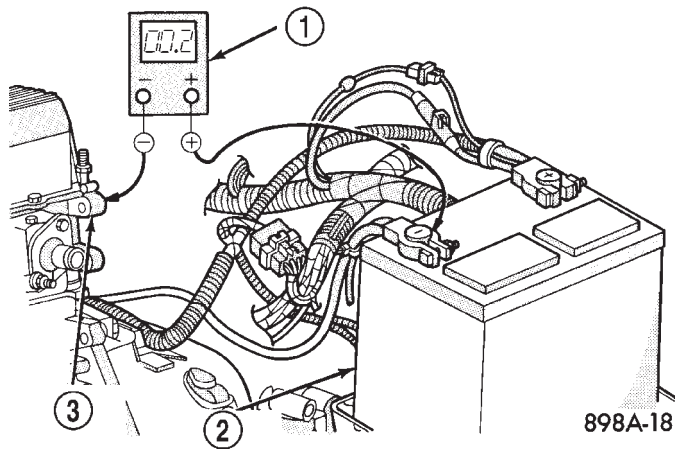

Fig. 7 Test Ground Circuit Resistance - Typical
(4) Connect the voltmeter to measure between the battery negative cable terminal clamp and a good clean ground on the engine block (Fig. 7). Rotate and hold the ignition switch in the Start position. Observe the voltmeter. If the reading is above 0.2 volt, clean and tighten the battery negative cable eyelet terminal connection to the engine block. Repeat the test. If the reading is still above 0.2 volt, replace the faulty battery negative cable.